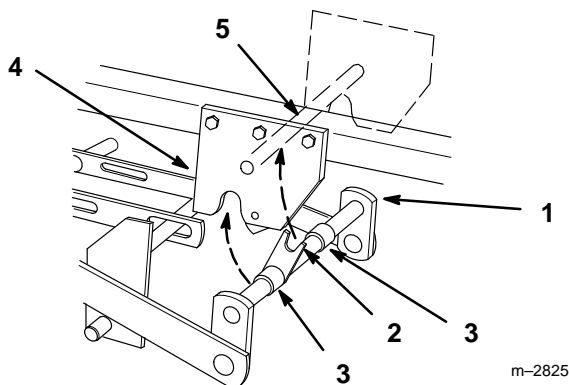

Figure 3
7. Rotate front mounting shaft so fork faces up and align so spacers are between mid-mount hitch plates (Fig. 3).
8. Lift mower with attachment lift and guide fork to capture hitch rod (Fig. 3). Close mid-mount hitch lock handle.